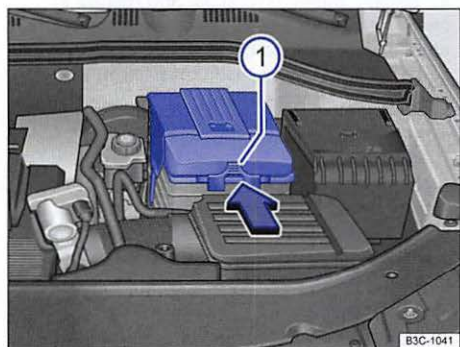

Fig. 133 In the engine compartment: Remove the cover from the vehicle battery.
- *With a hard cover:* Press on the clip ⇒ **fig. 133**  in direction of the arrow and remove the cover upward.